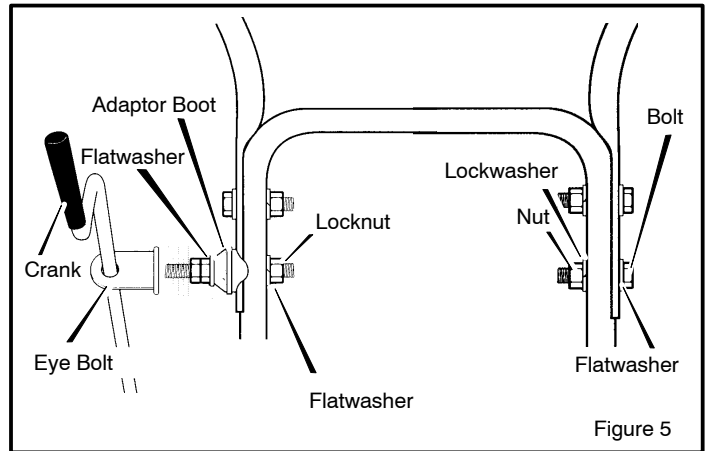

Figure 5
For shipping purposes, the handles were assembled together with the fasteners in the **LOWER holes**. When assembled, *make sure* that the **fasteners** are in the **UPPER holes** and that the **eye bolt** is mounted in the **LOWER hole** on the left side as shown in Figure 5.
5. On the *left side* of the handle, install the fasteners that were removed in step 2. Make sure these fasteners are installed in the UPPER holes as shown in Figure 5.
6. Install the fasteners and the crank assembly eyebolt that were removed in step 3. Make sure to install the eyebolt in the LOWER holes as shown in Figure 5. **DO NOT** tighten until all fasteners are in place.